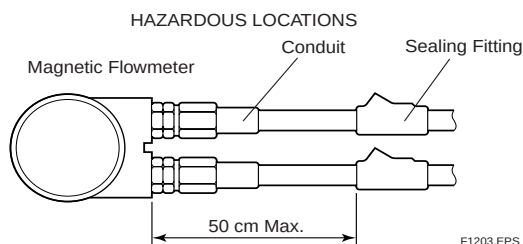

Figure 12.3.1 Conduit Wiring
- In hazardous location, wiring shall be in conduit as shown in Figure 12.3.1.